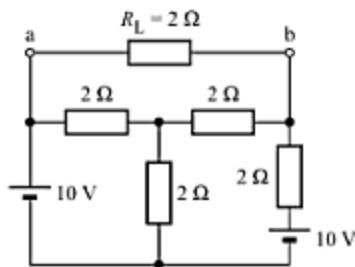

Fig. 4.44
- Find the current in  $R_L$  in the circuit of Fig. 4.44 by using Thevenin's theorem, and then verify your results by using loop current method.